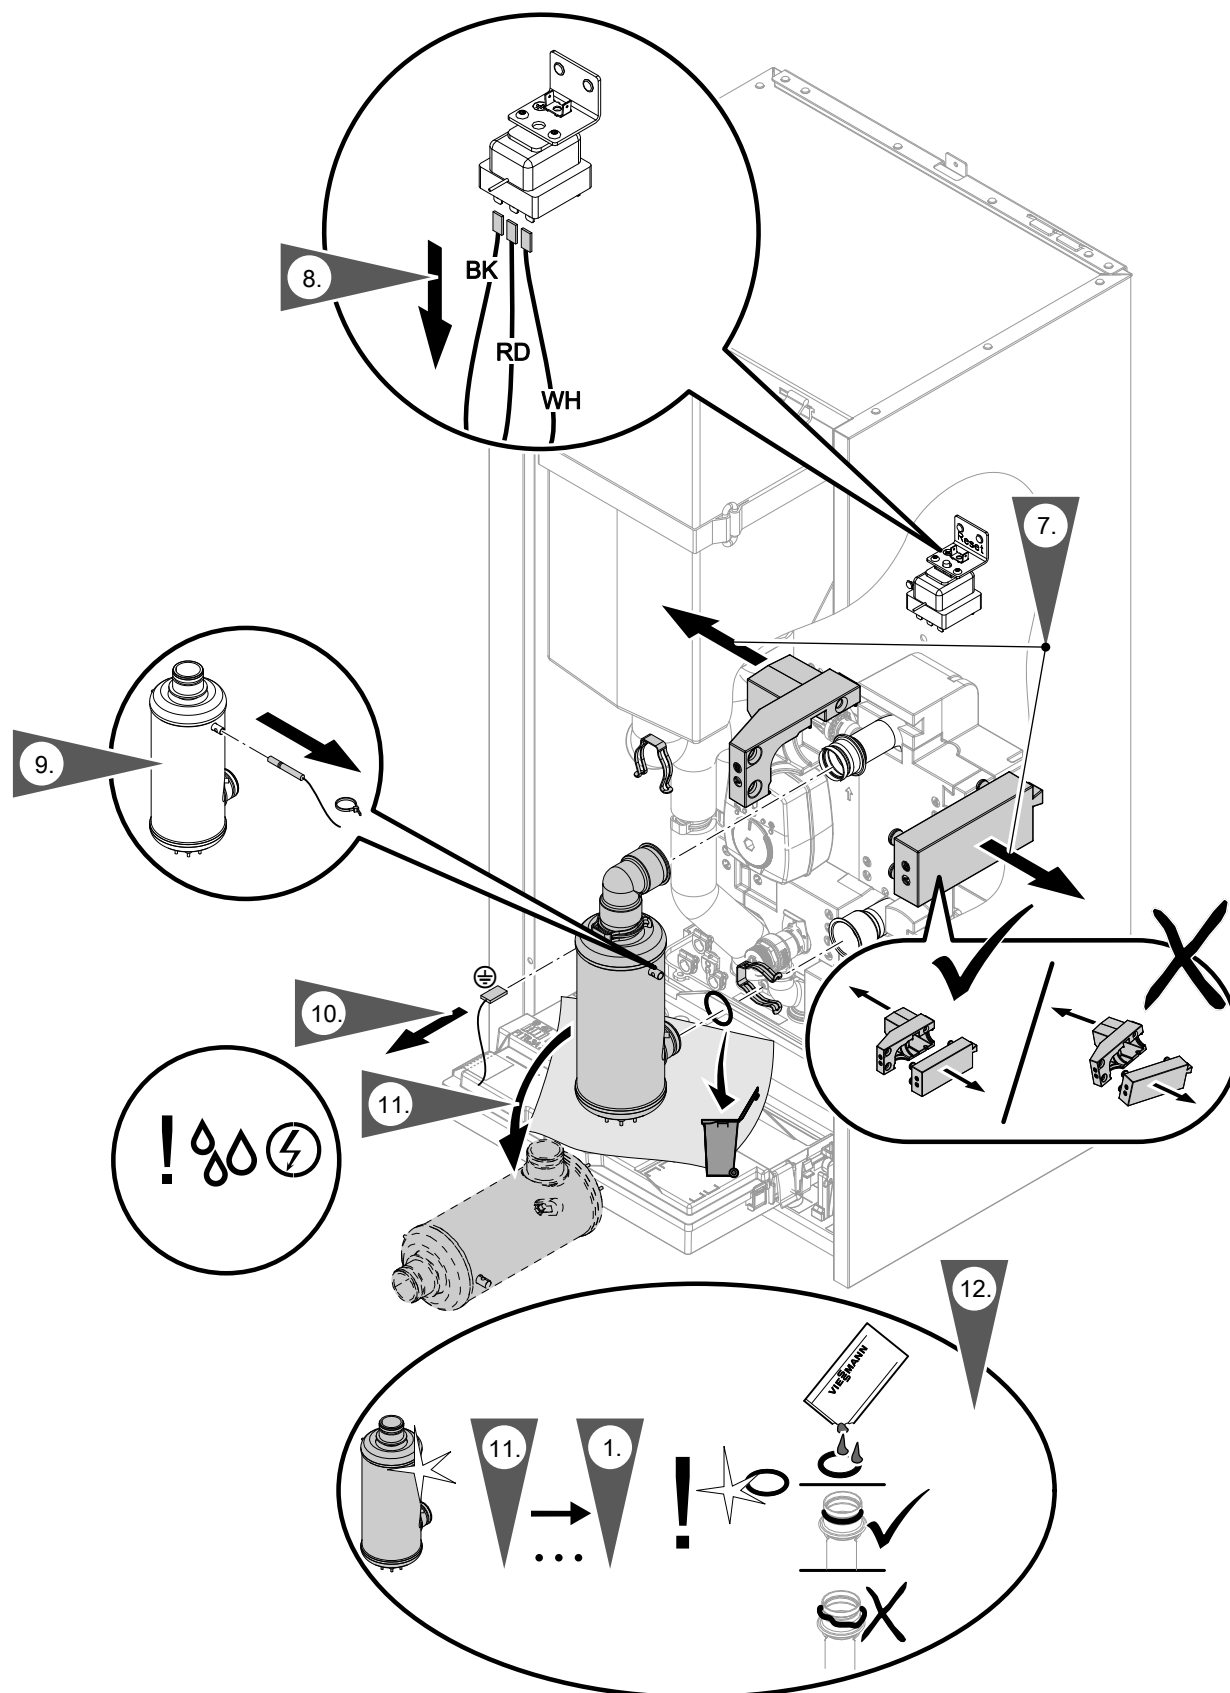

Fig. 87
- Temperature sensor on the instantaneous heating water heater and electrical leads on the high limit safety cut-out: See Fig. 87.